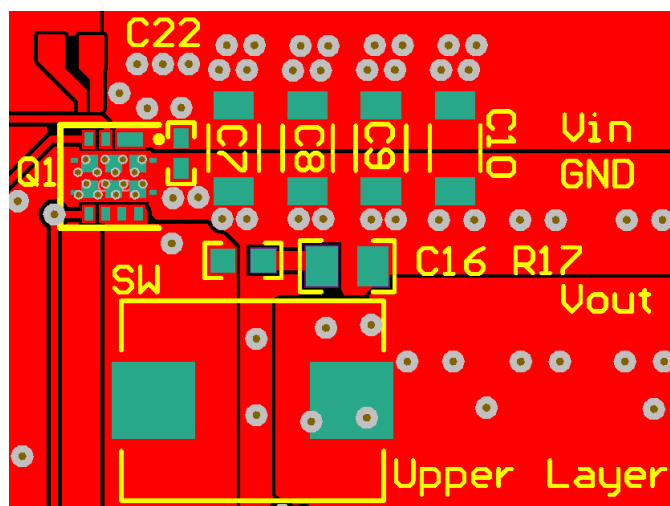
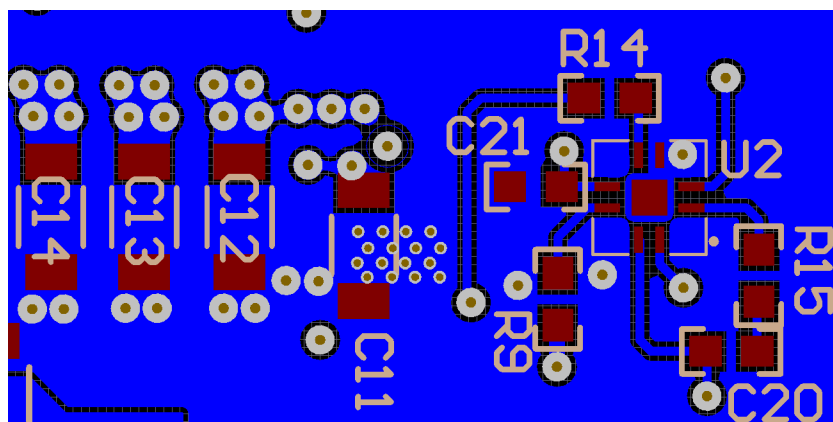

图 33. Recommended PCB Layout (Top Down View)
图 34. Recommended PCB Layout (Bottom View)
- The placement of the input capacitors relative to the power block's VIN and PGND pins should have the highest priority during the component placement routine. It is critical to minimize these node lengths. As such, ceramic input capacitors need to be placed as close as possible to the VIN and PGND pins (see Figure 33). It is recommended that one 3.3-nF (or similar), 0402, 50-V ceramic capacitor be placed on the top side of the board as close as possible to VIN and PGND pins. In addition, a minimum of 40 μF of bulk ceramic capacitance should be placed as close as possible to the power block in a design. For high-density design, some of these ceramic capacitors can be placed on the bottom layer of PCB with appropriate number of vias interconnecting both layers.
- The switching node of the output inductor should be placed relatively close to the power block VSW pins. Minimizing the node length between these two components will reduce the PCB conduction losses and actually reduce the switching noise level. In the event the switch node waveform exhibits ringing that reaches undesirable levels, the use of a boost resistor or RC snubber can be an effective way to easily reduce the peak ring level. The recommended boost resistor value will range between 1.0 Ω to 4.7 Ω depending on the output characteristics of driver IC used in conjunction with the power block. The RC snubber values can range from 0.5 Ω to 2.2 Ω for the R and 330 pF to 2200 pF for the C. Please refer to Snubber Circuits: Theory, Design and Application (SLUP100) for more details on how to properly tune the RC snubber values. The RC snubber should be placed as close as possible to the VSW node and PGND (see Figure 33 and Figure 34).⁽¹⁾
(1) Keong W. Kam, David Pommerenke, "EMI Analysis Methods for Synchronous Buck Converter EMI Root Cause Analysis", University of Missouri – Rolla
- Use the smallest drill size allowed in your design. The examples in 图 33 and 图 34 use vias with a 10-mil drill hole and a 16-mil capture pad.